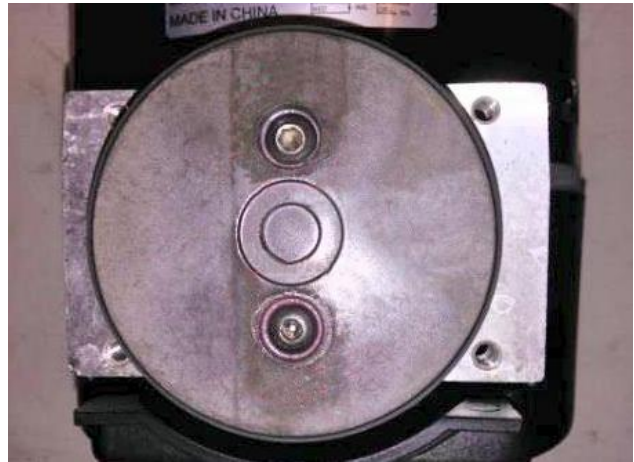

Fig. 5
8. Remove the retainer plate (1/8" Allen head, two screws), the piston cup, and the cylinder. (Fig. 5)